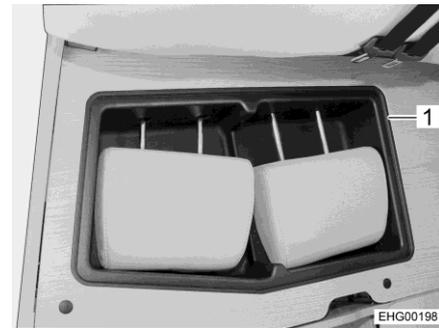

Fig. 17 Storage tray (bench)
- ▷ There is a storage tray (Fig. 17,1) for the headrests underneath the seat cushion of the bench.